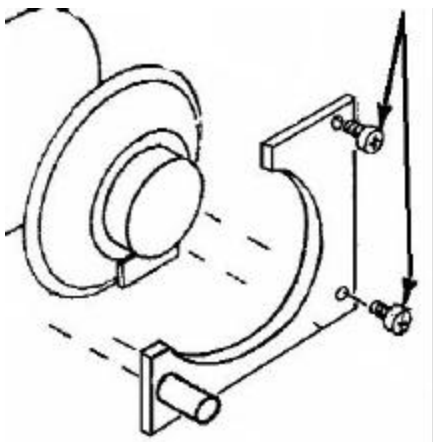

Figure 3
- e) Remove screws holding white speaker clip and remove speaker. (Fig. 3)